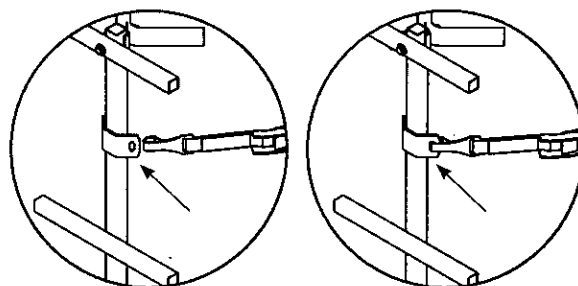

FIGURE 3
1. Standing on ground, with (1) Fast Stick section against tree, take the snap hook end of strap and wrap it around the tree. Connect hook to opposite slot of attachment bracket by snapping into slot. Pull the tail of cam strap tight so that the section is snugly secured to the tree. **SEE FIGURE 3.** Be certain all (4) contact points of tree huggers, (2) on each hugger, are contacting tree.
2. Take the section and pull down on it so it feels stable and is settled into using position before stepping on it. Check again to be certain all (4) contact points of tree huggers are contacting tree. Redo as necessary to accomplish this.